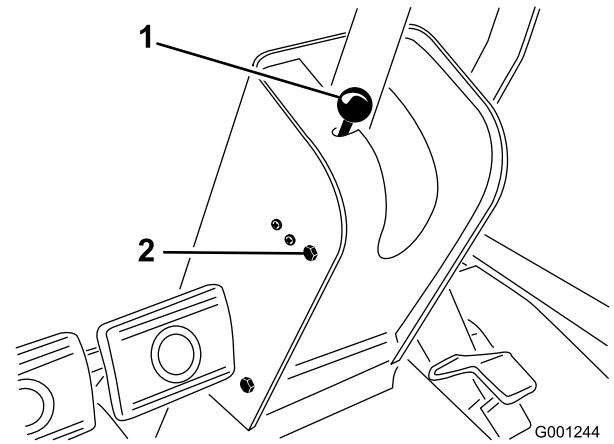

Figure 68
1. Remove the knob from the parking brake and screws from the steering column cover (Figure 68).